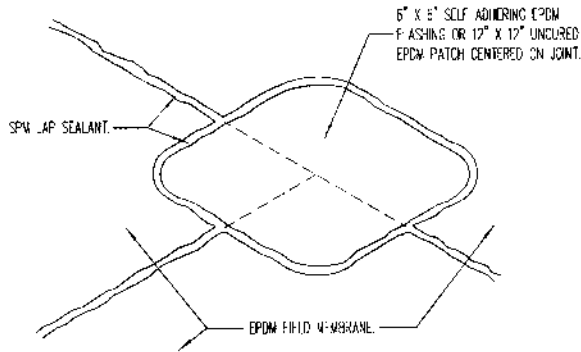

Figure 6A
- All membrane tee joints to be patched (see Figure 6A).